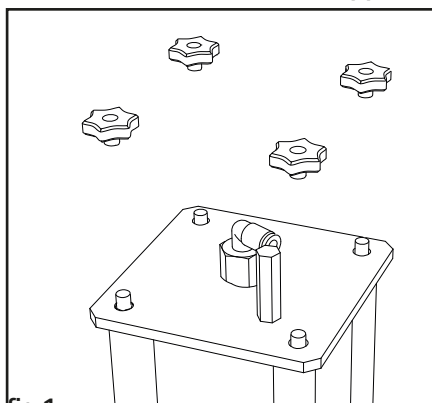
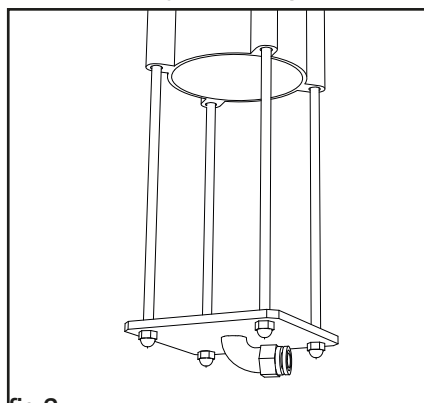

fig.1
fig.2
5. Then unscrew the knobs on the aluminum tank cover (fig.1), and then slide off the base with the 4 bars (the side without the valve) (fig.2).
1. Bring the pressure inside the tank to zero by unscrewing the pressure regulator counterclockwise (fig.1).
2. Open the tank cap "B" by first unscrewing the knobs on cap A and then pulling off cap B with the 4 bars (fig.2).